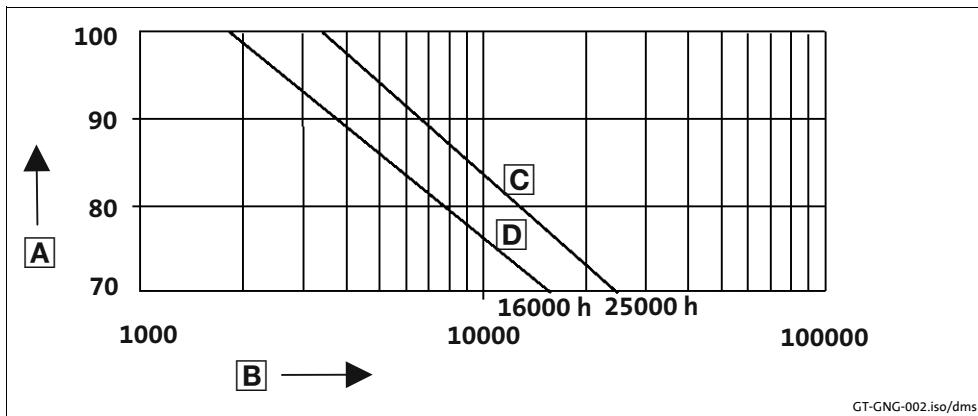

Fig. 3 Lubricant diagram
- The lubricant maintenance interval depends on the oil temperature, see Fig. 3.